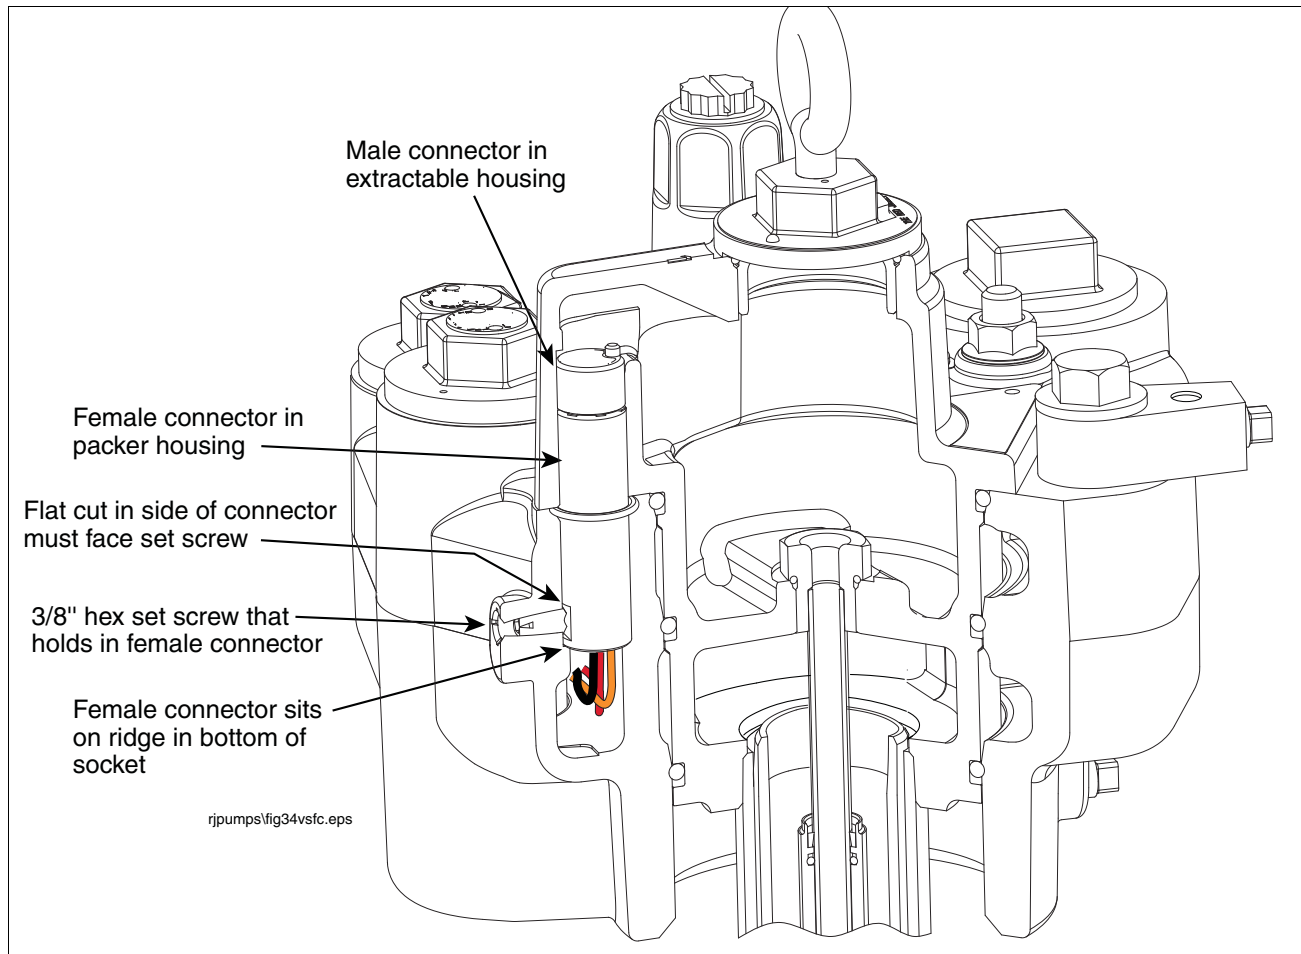

Figure 35. Locating female connector set screw
18. Using a 3/16" hex wrench, turn the set screw that holds the female connector in place about 1-1/2 turns counterclockwise until you can lift out the connector (see Figure 35). **Note: Do not try to remove the set screw.**